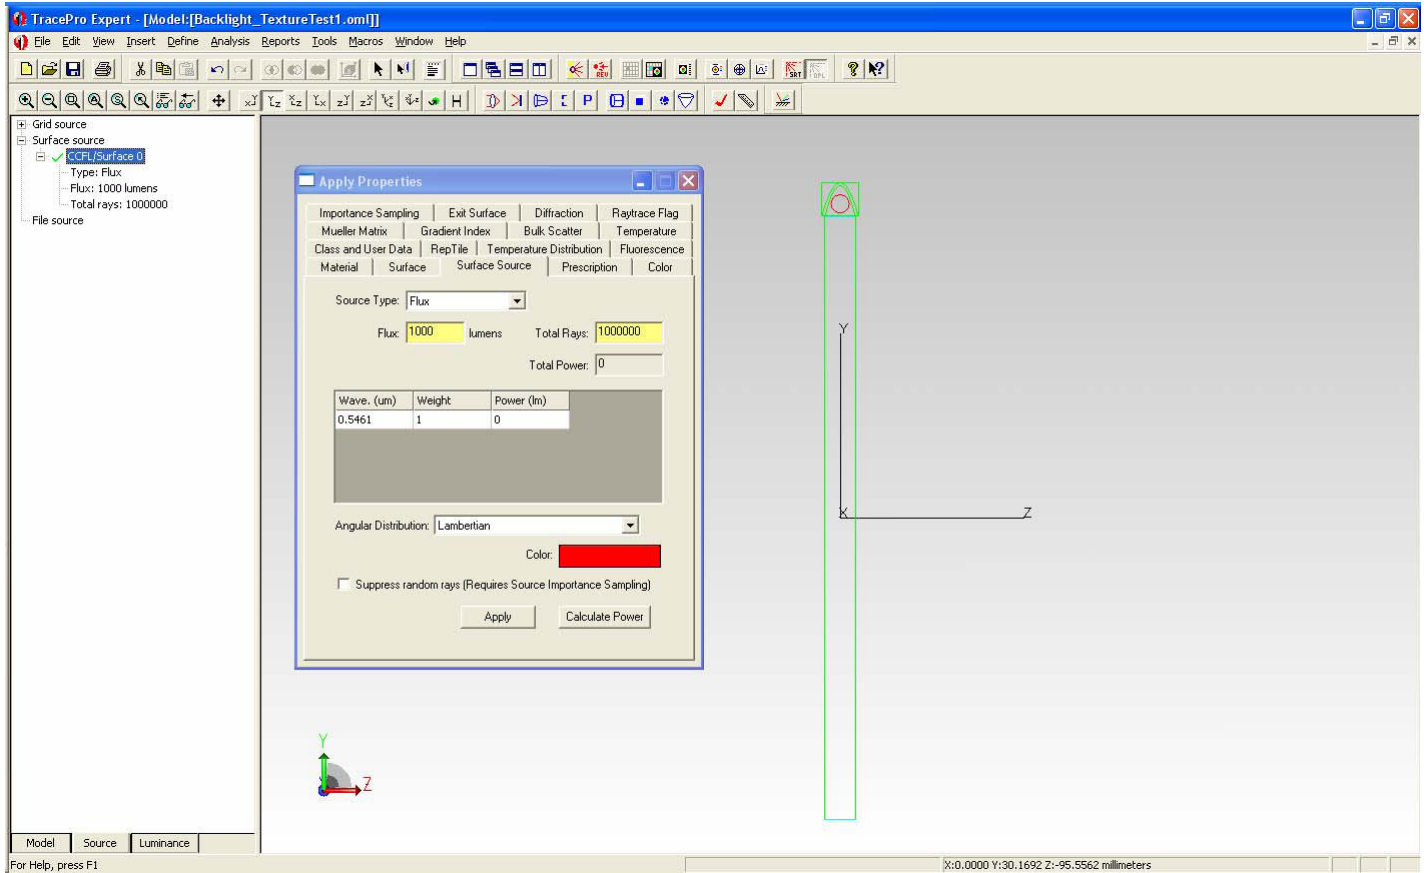

Figure 26. Final verification that the source is correctly defined. You can click on Calculate Power to get the Power (lm) in the table to be set correctly.
2. Expand the Surface sources item in the list (see Fig. 26),
4. Verify that the resulting dialog (as within Fig. 26) agrees with that of Fig. 11,